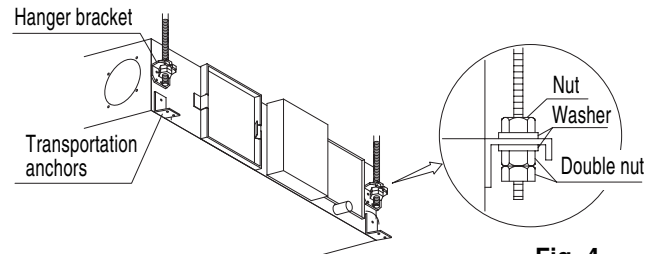

Fig. 4
(1) Install the unit temporarily.
- Attach the hanger bracket to the suspension bolt. Be sure to fix it securely by using nuts and washers (locally procured) from the upper and lower sides of the hanger bracket. (Refer to Fig. 4)